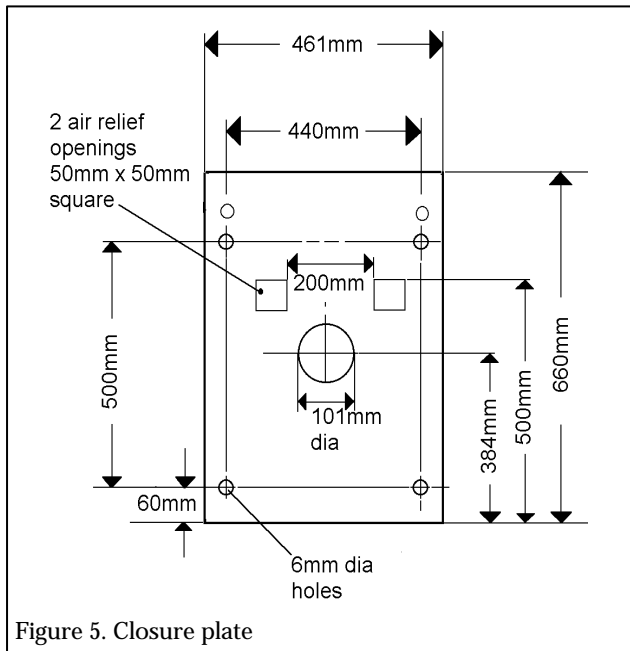

Figure 5. Closure plate
3.4. FITTING THE CLOSURE PLATE (Figures 5,6 & 7)